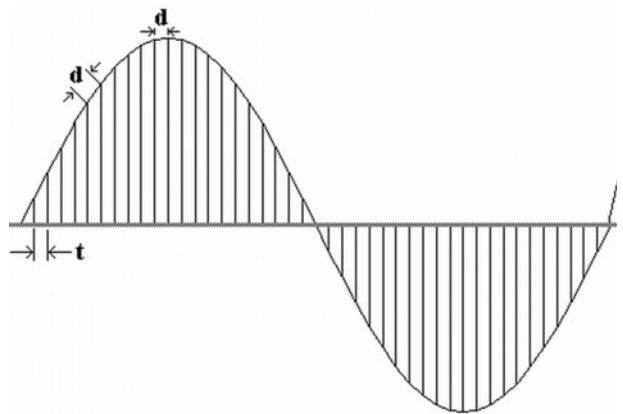

Figure L53-9
4. Time is important. How do we show time? Right now, time is chasing around on the outside of the circle and distance is marked across the horizontal ground line. But the distance the electrons move is not as important to us as timing. So the next thing to do is to impose a time measure onto the horizontal line, replacing distance as the measure. This is shown in Figure L53-9. The amount of voltage (energy or force) that defined the height remains in place. Obviously, time is marked in evenly spaced increments.